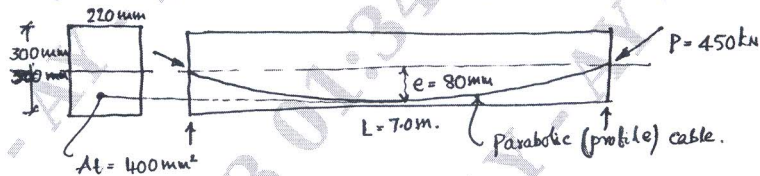

Fig.Q3(b)
- b. Find the percentage loss of prestress for the following data [Refer Fig.Q3(b)] :